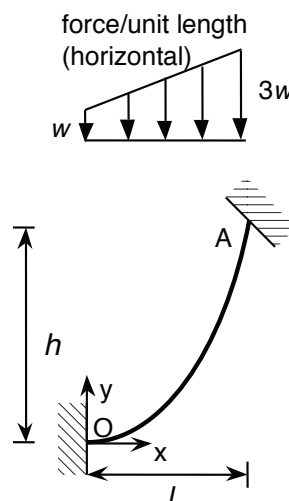

Fig. 1
* 2. Figure 1 shows a flexible cable OA, loaded vertically by a distributed load (including self-weight) which varies linearly in intensity from w to $3w$ across the horizontal span L . Point A is at height h above O. The tension in the cable is such that the tangent at O is horizontal. Find the tension at A and derive an equation for the shape of the cable.